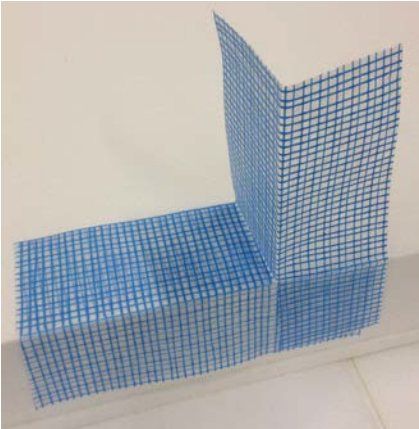

Figure 5
- 5a) As an alternative, preformed Dryvit AquaFlash Corners can be applied at each corner of the opening to reduce the number of field cuts required. The AquaFlash Corners are installed in the same manner as the AquaFlash Mesh. – Figure 5